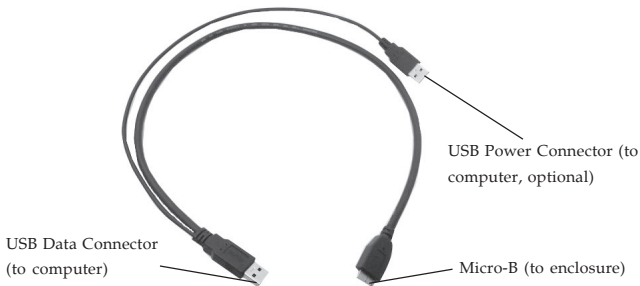

Figure 2: USB 3.0 Y-split Cable
5. Connect the Micro-B connector of the included USB 3.0 Y-split cable into the Micro-B connector of the enclosure. See **Figure 2** in page 3 for more information.
6. Connect the Type-A, USB Data connector of the included USB 3.0 Y-split cable to an available USB port of the computer (USB 3.0 recommended). See **Figure 2** in page 3 for more information.